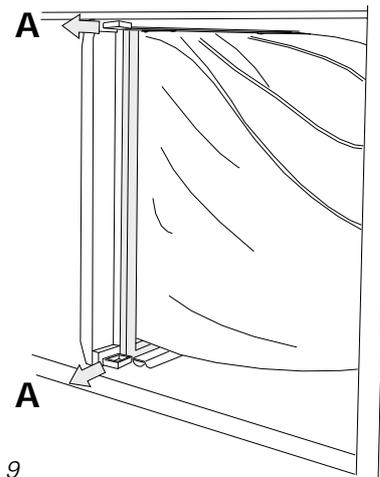

Fig. 9
- Pull the two blue handles (A in Fig 9) at the upper and lower edges of the filter mounting bracket outward, to open the off-centre actuated list.